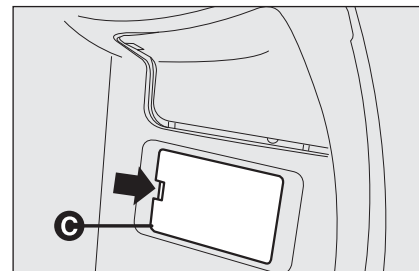

fig. 47
- open the fuse box lid **C-fig. 47** working in the point shown by the arrow.